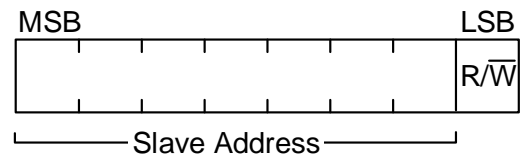

Figure 9: 7-Bit Addressing
After the start signal, a slave address is sent. This address is 7-bits long, and is followed by an 8th bit as a data direction bit (R/W). A 0 indicates a write (W) signal transmission, while a 1 indicates a read (R) signal data request. Figure 9 shows the address bit arrangement.